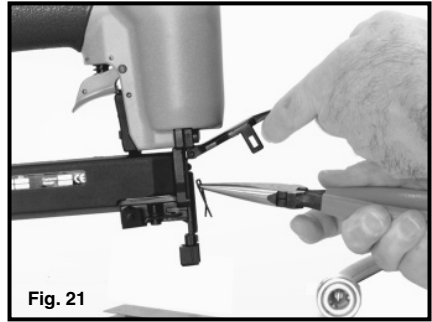

Fig. 21
4. Remove the jammed fastener (see Fig. 21).